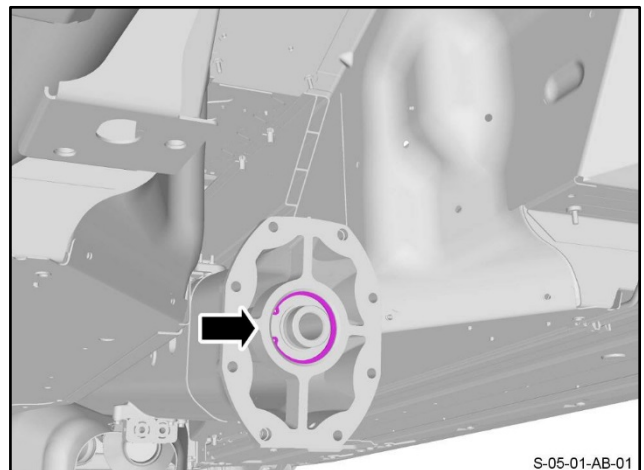

Figure 45
- 87.** Install the circlip that keeps the propeller shaft in the torque tube (refer Figure 45).